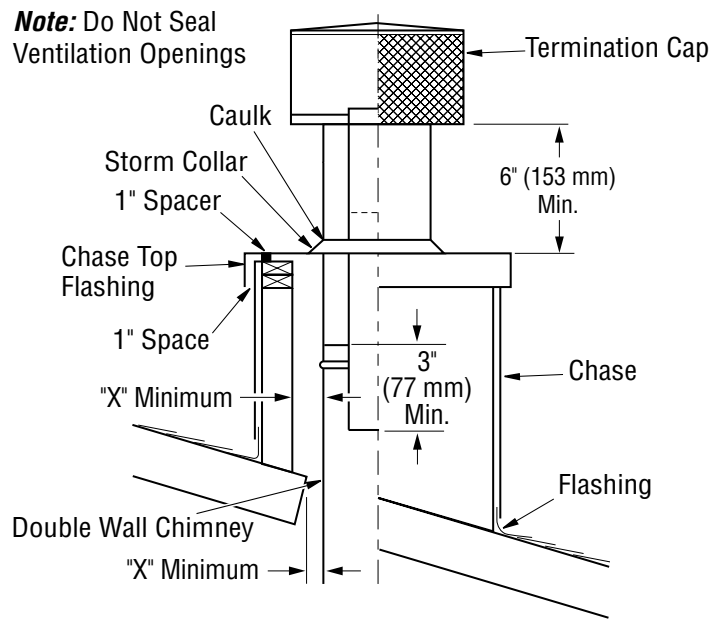
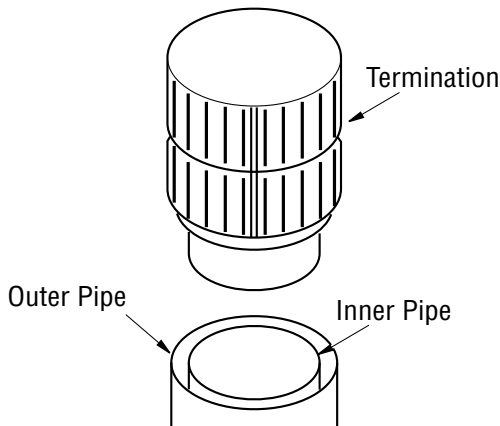

Figure 29 - Chase Installation
Figure 28- Installing Termination Cap
5. Place termination cap over opening. Slip stainless steel inner pipe of termination into inner stainless steel chimney section (see Figure 28). Place galvanized steel over chimney outlet (see Figure 29).
6. Attach storm collar where chimney pierces opening in flashing. Caulk where storm collar touches outer chimney pipe (see Figure 29).